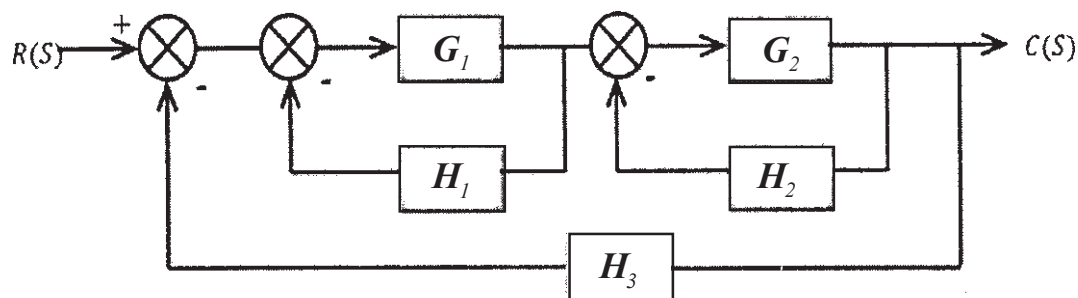

Figure Q 5 (b)
b) Use block diagram reduction to simplify the block diagram shown in figure Q 5 (b) below into a single block relating $C(s)$ to $R(s)$. [8]